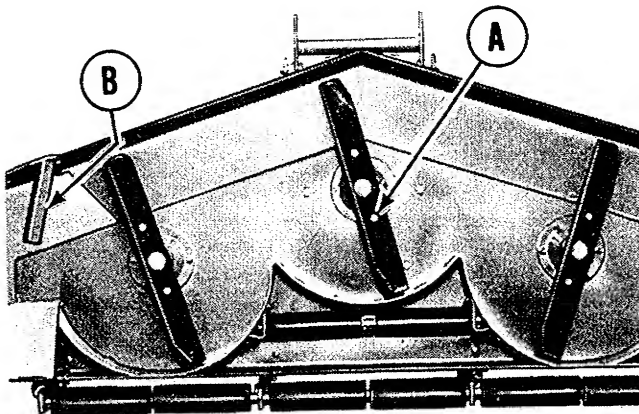

Figure 15. Underside of mower deck.
Do not attempt to remove the blades until you have the correct size box, socket or open end wrenches for the blade mounting bolts. Place a wooden block between the mower blade and deck to prevent the blade from rotating until the capscrews are loosened. See figure 15. Remove the capscrews (A) to remove the blades for sharpening or replacement. **CAUTION: NEVER OPERATE THE MOWER WITHOUT THE STONE GUARD (B) IN PLACE. ALWAYS INSURE IT IS BOLTED SECURELY IN PLACE WHEN SERVICING THE MOWER.**